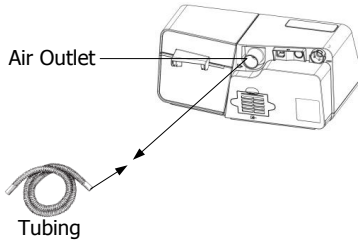

Fig. 11-7
(1) Connect one end of the tubing to the air outlet of the device, as shown in Fig. 11-7.